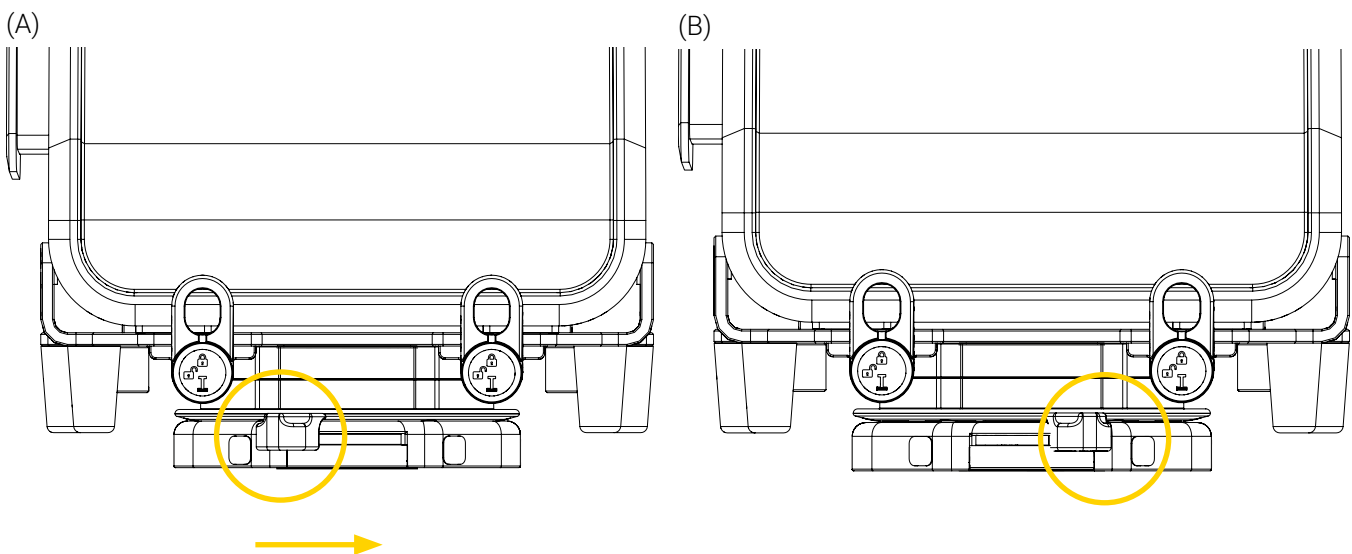

Figure 9: Locking the mounting bracket on the Universal Mounting Base
4. Lock the base using the slide locking lever (Figure 9). Refer to the « Safety Mechanism » section on page 19 if needed.